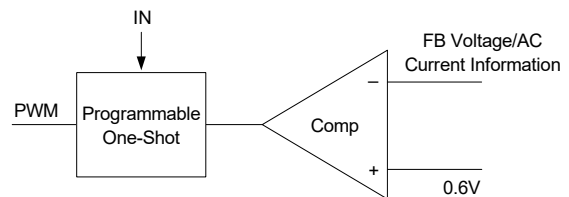

Figure 2. Simplified Control Schematic of AOZ2255AQI-30
The control algorithm of AOZ2255AQI-30 is constant-on-time PWM control with input feed-forward. The simplified control schematic is shown in Figure 2. The high-side switch on-time is determined solely by a one-shot whose pulse width is inversely proportional to input voltage (IN). The one-shot is triggered when the internal 0.6V is higher than the combined information of FB voltage and the AC current information of inductor, which is processed and obtained through the sensed low-side MOSFET current once it turns-on. The added AC current information can help the stability of constant-on time control even with pure ceramic output capacitors, which have very low ESR. The AC current information has no DC offset, which does not cause offset with output load change, which is fundamentally different from other  $V^2$  constant-on time control schemes.